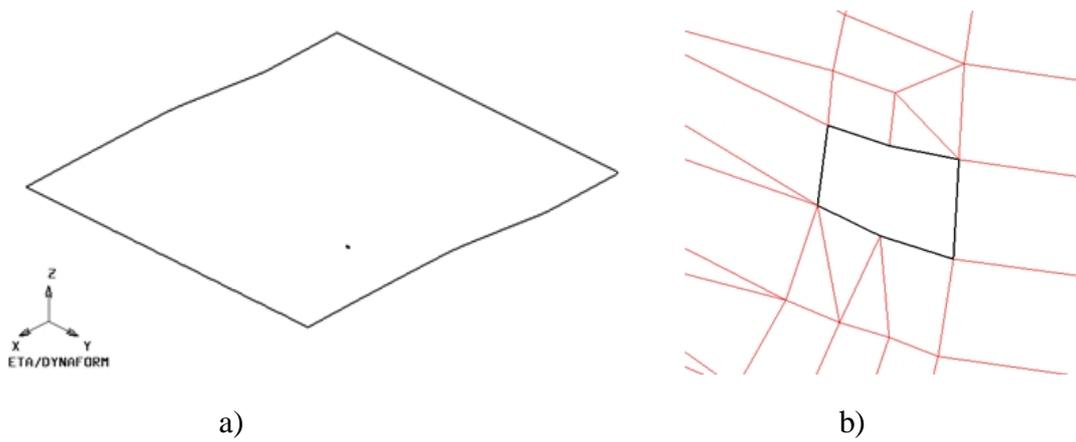

Figure 5.21 Boundary line check
2. Toggle off the checkbox of Elements and Nodes from the **Display Options** at right corner of the screen (**Note**: the boundary lines are still displayed). This enables you to detect those minor gaps that might be difficult to detect when the mesh is displayed. If other white lines are also displayed, besides the boundary, you should repair the defective mesh accordingly. See Figure 5.21.